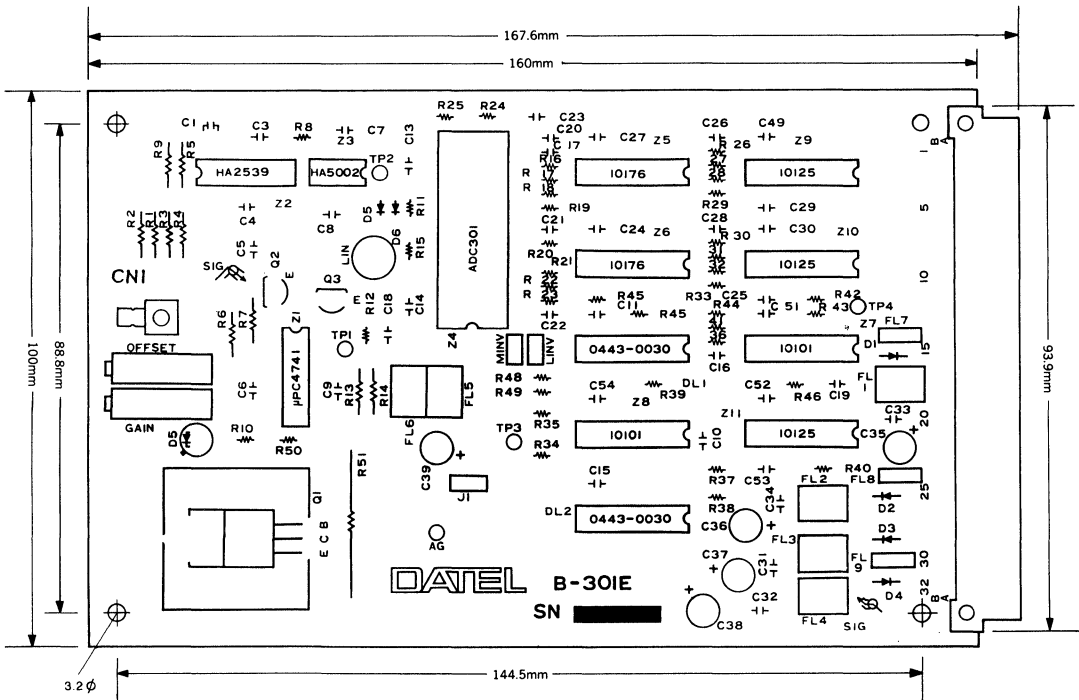

Figure 3. Component Layout Diagram
- Supply the analog input signal to the coaxial cable input terminal (CN1). This input signal can be also supplied via the DIN connector. In this case, connect the two sets of feedthrough holes labeled 'SIG' in Figure 3 with a short coaxial cable and then supply the signal to the A28 (signal) and B28 (signal GND) terminals.